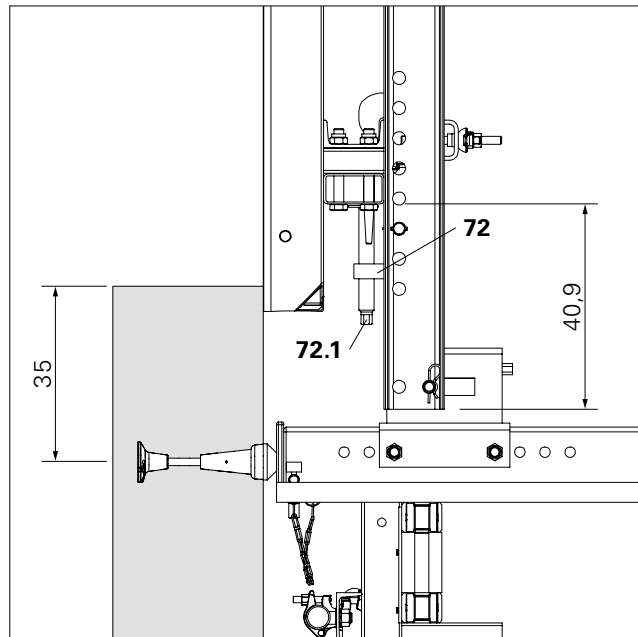

Fig. B2.26
8. Turn the spindle (72.1) of the Height Adjusting Unit against the Formwork Waler. (Fig. B2.26)